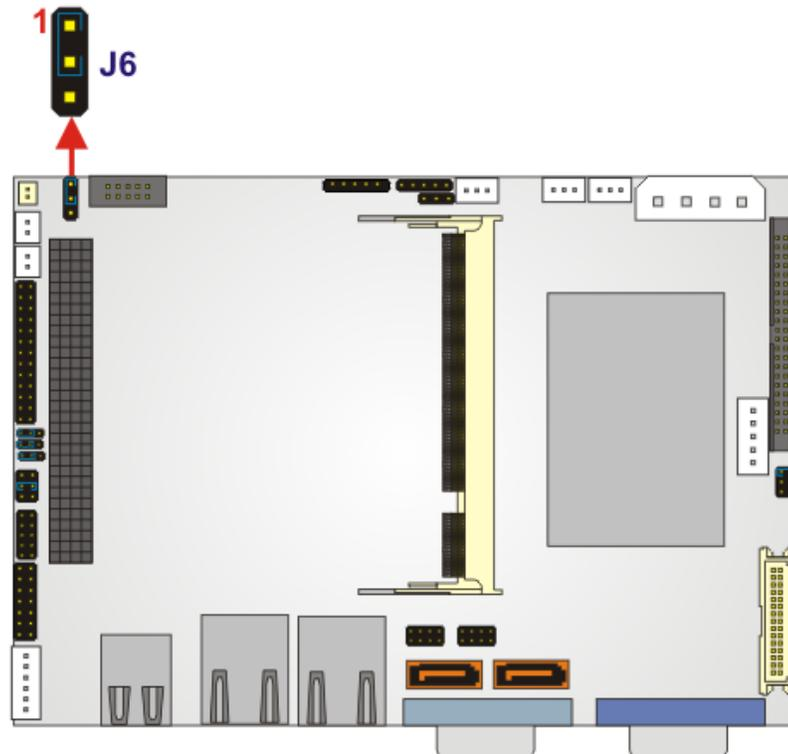

Figure 4-2: Clear CMOS Jumper
- Jumper Location:** See **Figure 4-2**
The location of the clear CMOS jumper is shown in **Figure 4-2** below.